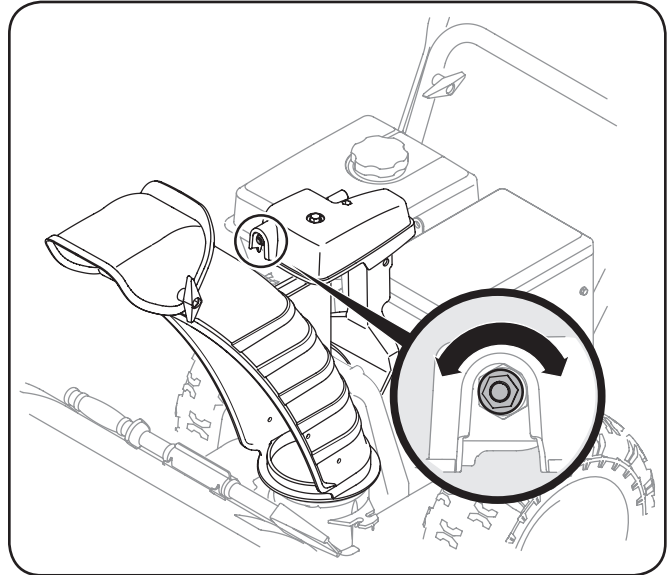

Figure 6-8
- While preventing the chute control rod from turning tighten the nut on the chute gearbox assembly. See Figure 6-8.